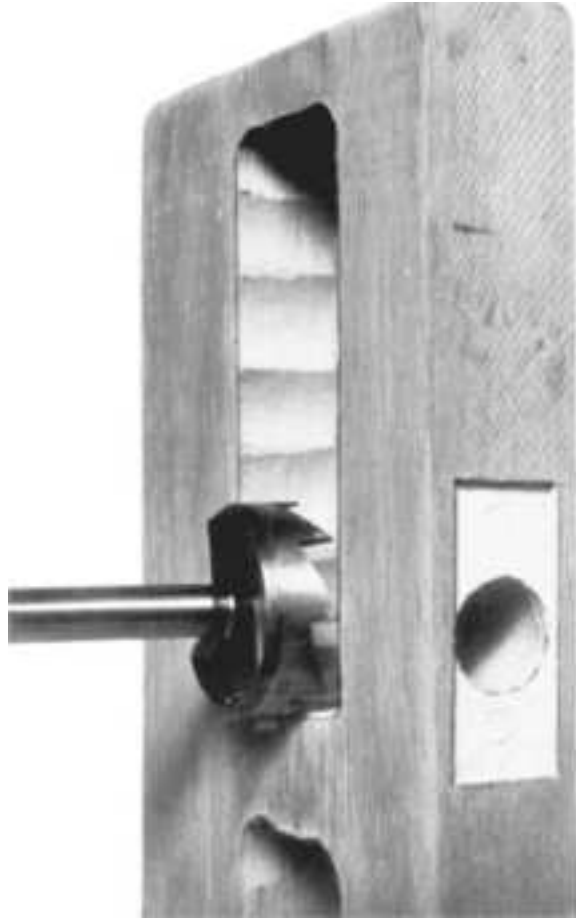

**Figure 18.45** Preso-Matic installation template, 2 $\frac{3}{8}$ -inch backset.
1. Bore the opening for the lock and latch (Fig. 18.45 ) using the required template that comes with the unit (Figs. 18.46 and 18.47 ).